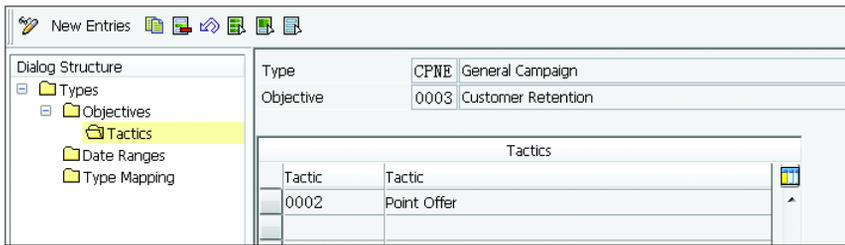

Figure 5.16 Campaign Tactics
4. Similar to objectives, you can maintain tactics to choose within the campaign transaction (see Figure 5.16).